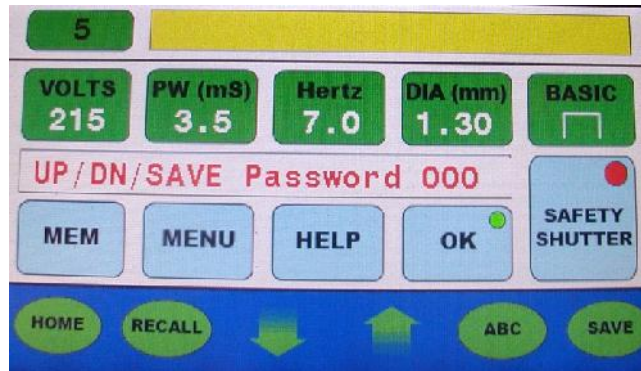

Figure 6
Disable / Turn “OFF” Restricted Access / Password Protection- Password protection is turned “OFF” by the following steps. The factory default password is “438”. **(Figure 6)**
- Press “MENU” on the Password Screen and the first digit “0” will blink **(Figure 6)**